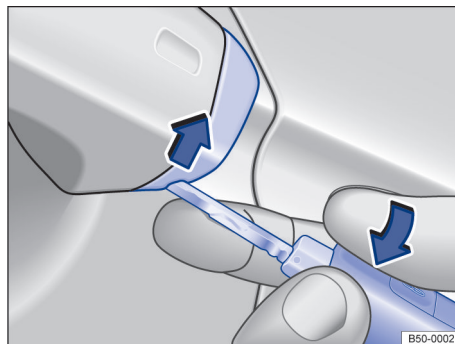

Fig. 54 Driver door handle: Removing the lock cylinder cover.
- If the vehicle has a concealed lock cylinder, insert the key bit from below into the opening of the cover cap on the driver door → fig. 54 (arrow) and lift the cover cap off. Grasping the door handle and pulling slightly makes it easier to remove the cap.